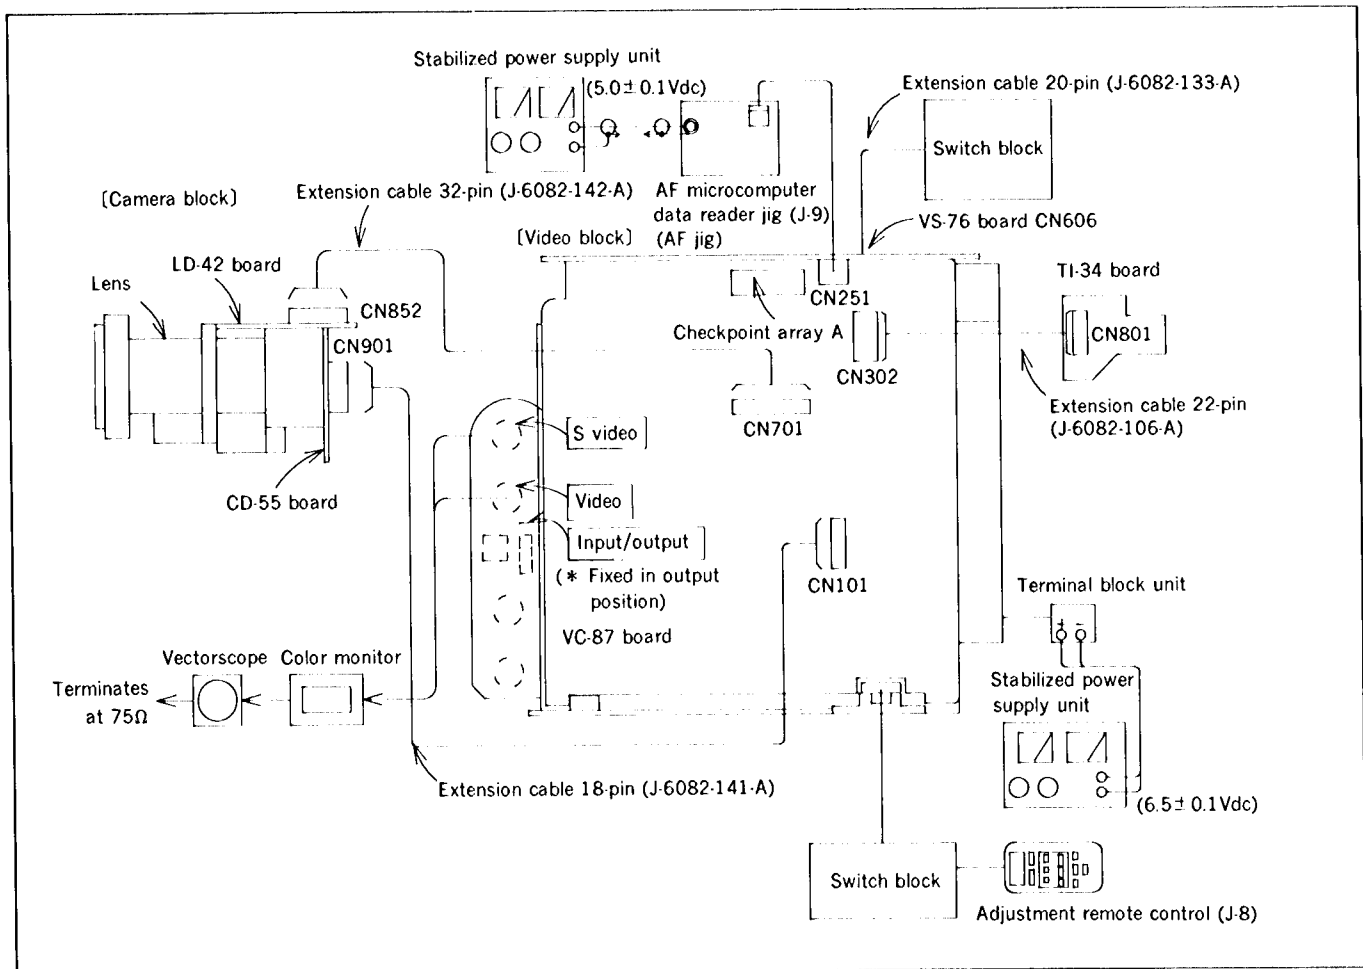

Fig. 4-3.
1) With the extension cables, connect between the camera block and the video block and connect other equipment as shown in Fig. 4-3.